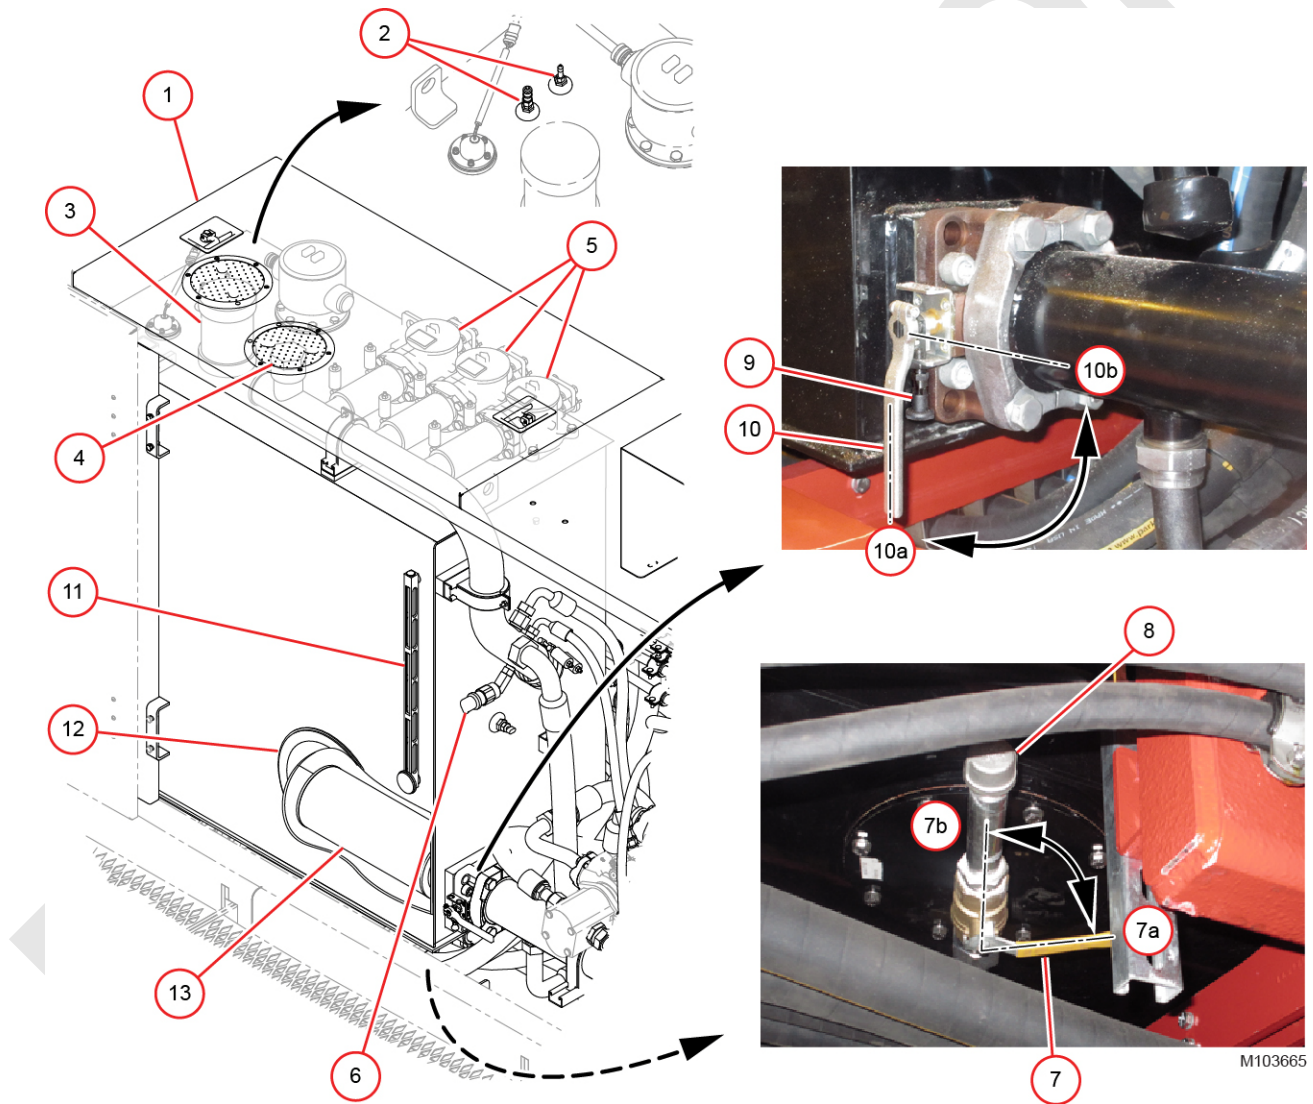

Figure 2-27. Hydraulic Tank
See Figure 2-27 for the following procedure.
It is not necessary to drain the hydraulic tank when servicing the hydraulic pumps. To service the pumps, move the hydraulic tank shut-off handle (10) Figure 2-27 on page 2-28 to the closed position (10a).